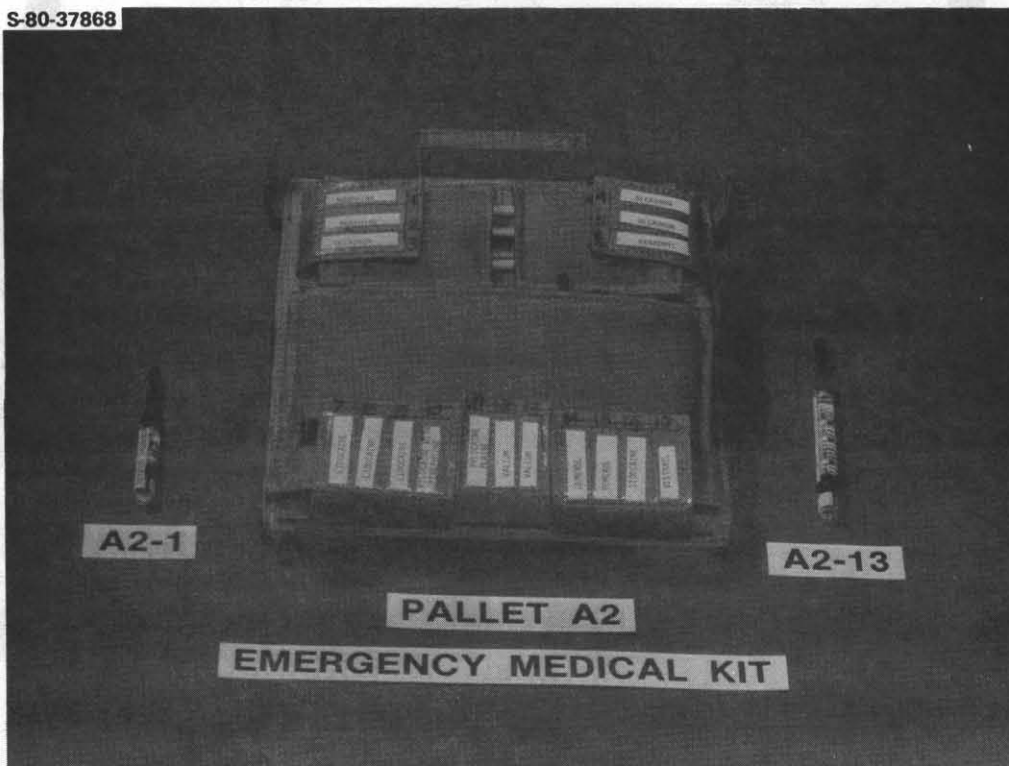

Figure 3.19-2.- SOMS, pallet A - injectables.
The SOMS (fig. 3.19-1) weighs 10.5 lb (4.8 kg), will fit into a 0.6-ft³ (0.02-m³) volume, and consists of two packages (fig. 3.19-1). These packages are the Emergency Medical Kit (EMK), which contains four pallets, and the Medications and Bandage Kit (MBK), which contains three pallets. The EMK includes pallet A, injectables; pallet B, injection accessories and surgical items; pallet C, diagnostic/therapeutic items; and pallet G, microbiological test items. The MBK contains pallet D, oral medications; pallet E, bandage items; and pallet F, other medications, (fig. 3.19-2). Each is constructed in the form of a pallet with a fabric covered stiffener and pockets on each side. Each has a number '1' or '2' with its designator; for example, pallet A1 and A2 indicate the front and back sides of pallet A. The All Flights MEDICAL CHECKLIST will specify the location of medical equipment and supplies in the two medical kits by an alphanumeric code as follows:
- Pallet A, Injectables (fig. 3.19-2)